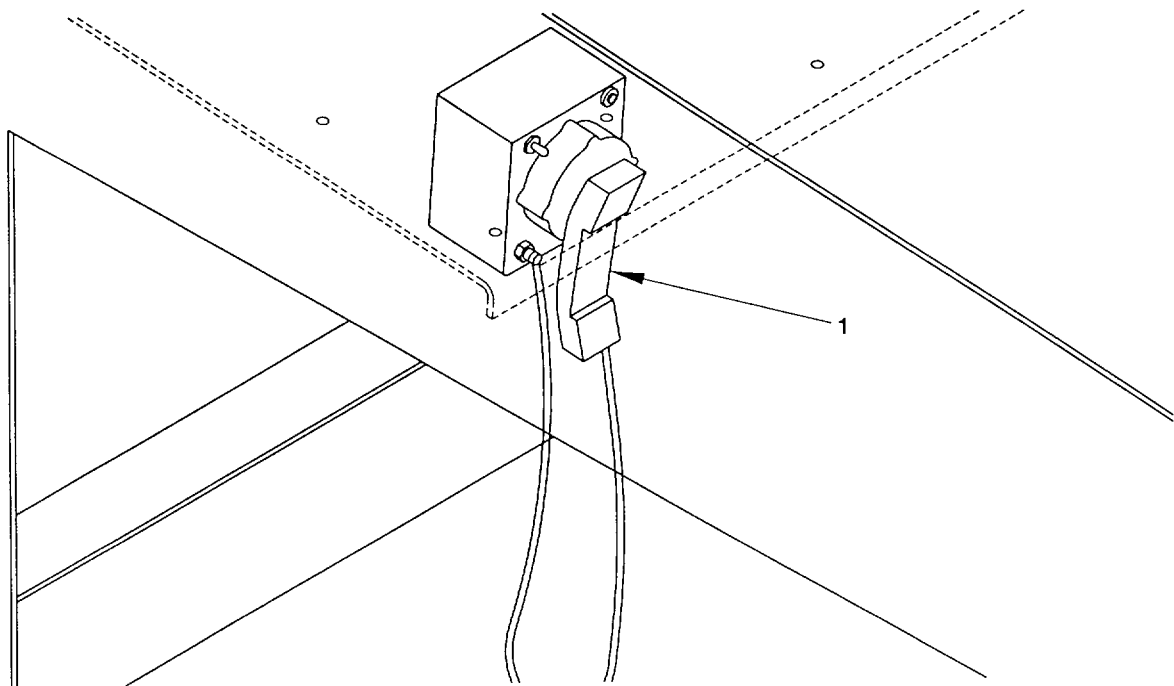

Figure 2-109. Remote and Microphone (SINGARS), Remove/Install
- a. *Remove.* (figure 2-109)
- b. *Install.* (figure 2-109)